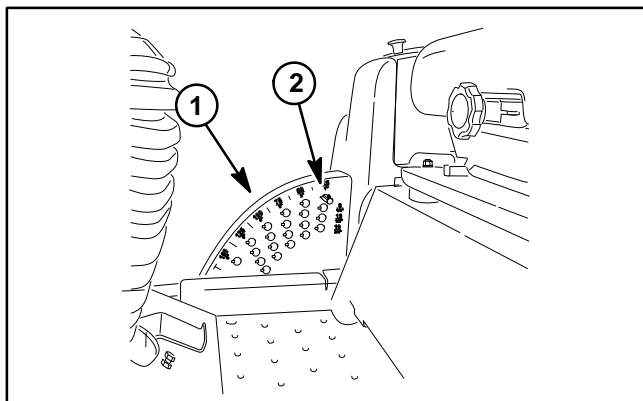

Figure 2
3. Note location of HOC pin in HOC bracket for assembly purposes (Fig. 2). Remove HOC pin from HOC bracket.
6. Install HOC pin into HOC bracket to allow desired height-of-cut (Fig. 2).